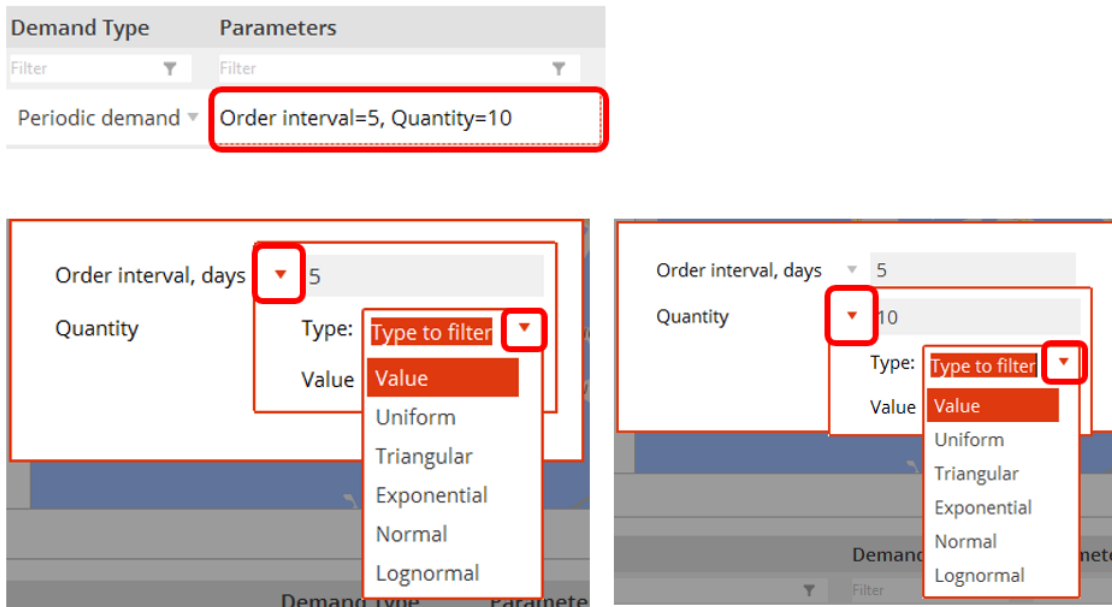

Figure 24: Periodic Demand Parameters
- For Figure 24, double click on “Order interval $q=5$, Quantity=10”